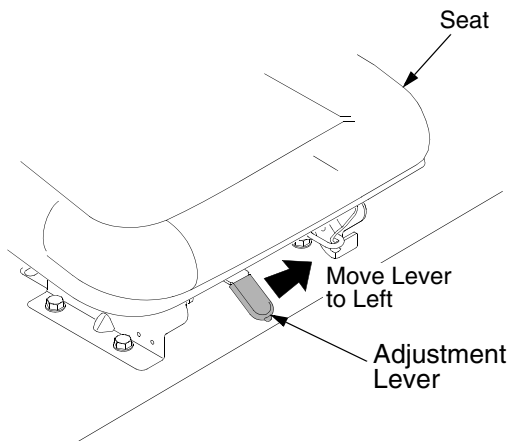

Figure 19
- To adjust the position of the seat, move and hold the seat adjustment lever toward the left. Slide the seat forward or rearward to the desired position; then release the adjustment lever. Make sure seat is locked into position before operating the tractor. See Figure 19.